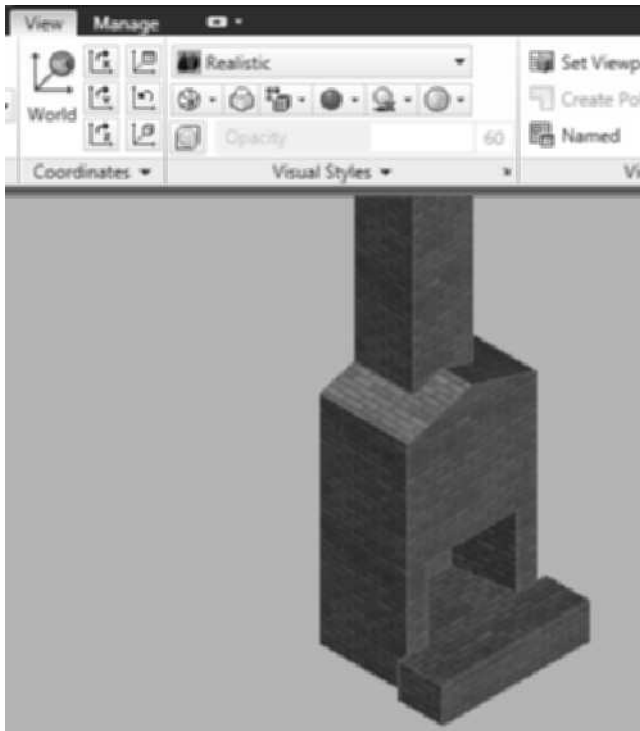

FIGURE 4.72 Choose Realistic from the Visual Styles panel
12. Choose the View tab. Choose **Realistic** from the **Visual Styles** flyout of the Visual Styles panel to view the mass group as shown in Figure 4.72.